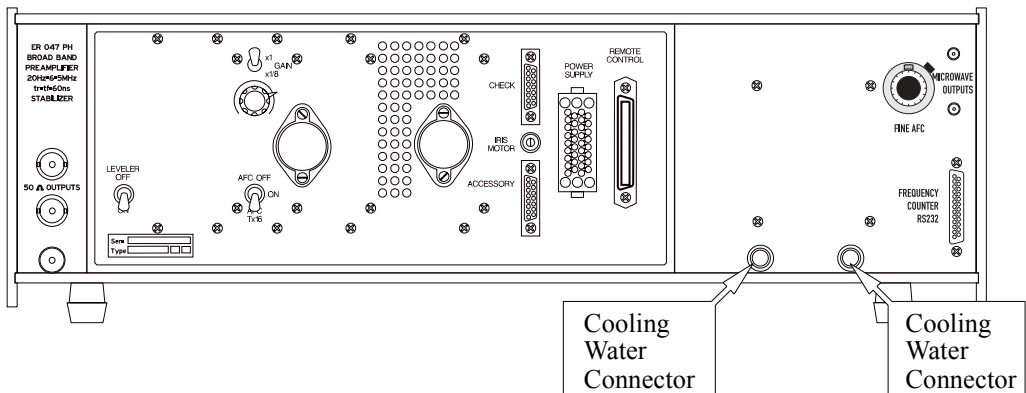

Figure 11-1 The cooling water connectors for the microwave bridge.
3. **Disconnect the cooling water.** Not all bridges require water cooling. If the current bridge has water cooling, first close the water valves for the bridge. Disconnect the water hose to and from the bridge. (See Figure 11-1.) Block the water hose to prevent water spillage.